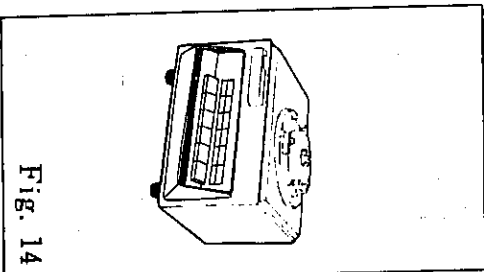

Fig. 14
- 1) Remove Cutter Case A, B, and the Centrifugal Basket (Fig. 14).